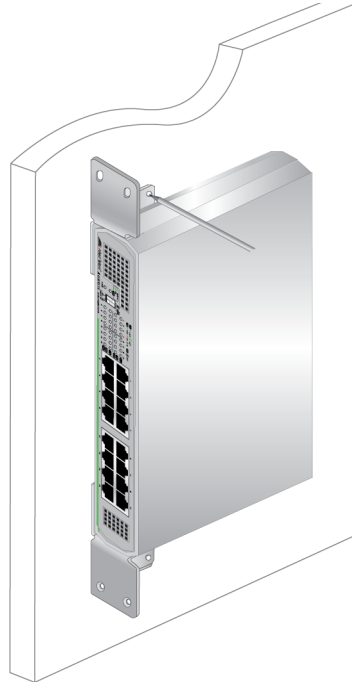

Figure 19. Marking the Screw Hole Locations
4. Have another person hold the switch with the brackets at the wall location where the switch is to be installed, while you use a pencil to mark the wall with the locations of the four holes in the brackets. See Figure 19 as an example.